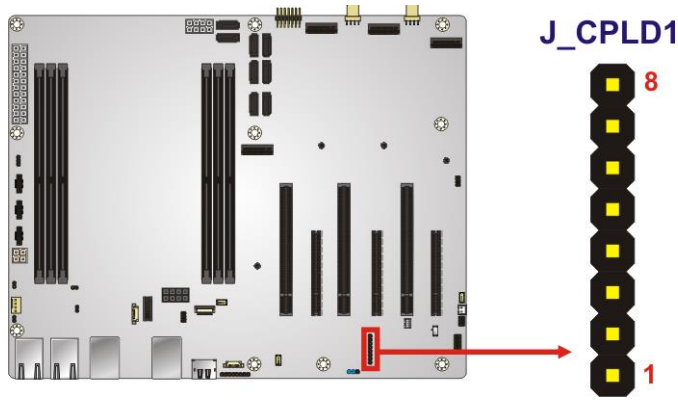

Figure 3-8: CPLD Firmware Programming Connector Location
- CN Location:** See **Figure 3-8**